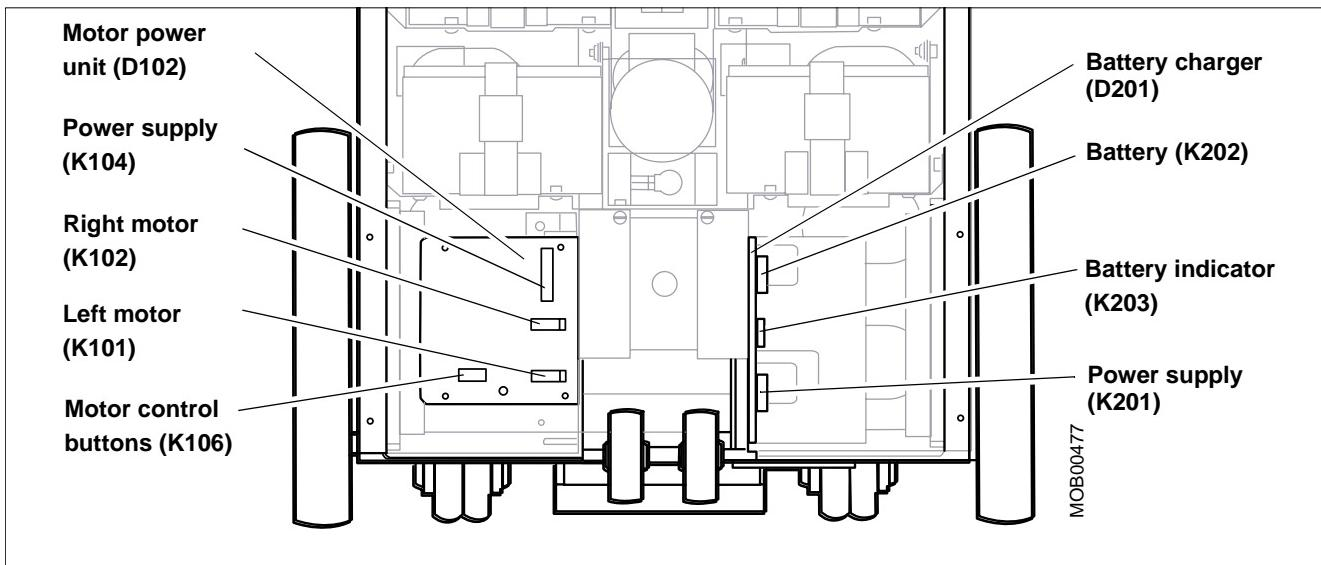

Fig. 7 Motor power unit, electrical connections
- Remove the motor power unit (D102) or battery charger (D201) depending on the side where the motor is being replaced. Refer to (Fig. 7) for electrical connections.
- Install the motor power unit (D102) or battery charger (D201). Refer to (Fig. 7) for electrical connections.